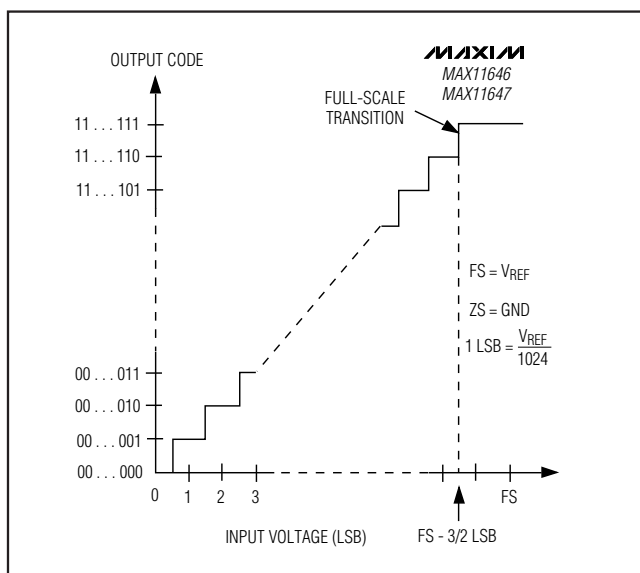

Figure 12. Unipolar Transfer Function
Output data coding for the MAX11646/MAX11647 is binary in unipolar mode and two's complement in bipolar mode with 1 LSB = $(V_{REF}/2^N)$ where N is the number of bits (10). Code transitions occur halfway between successive-integer LSB values. Figures 12 and 13 show the input/output (I/O) transfer functions for unipolar and bipolar operations, respectively.